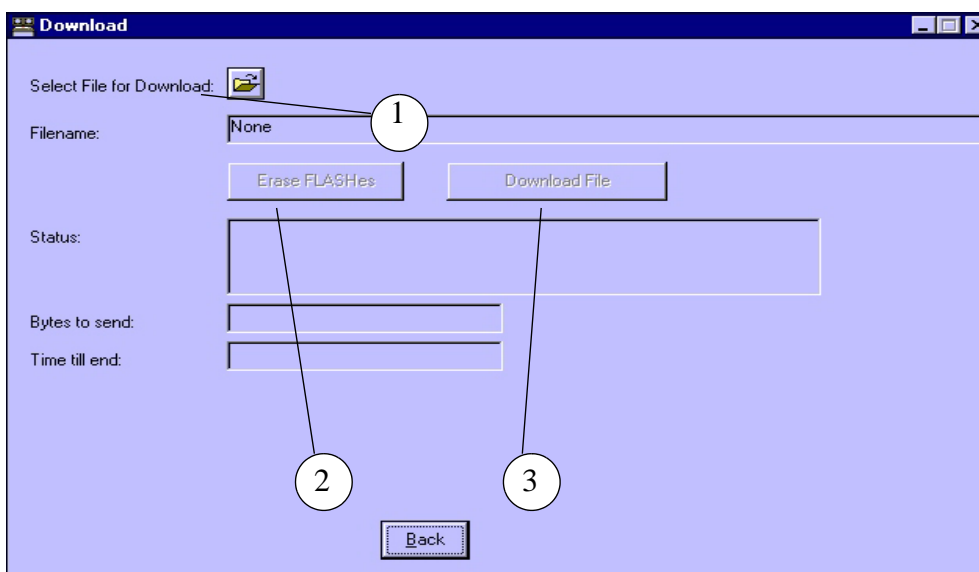

Fig. 4
- Click on the "Select file for Download:" button (1/ Fig. 4).
- Then "Erase FLASHes" (2/ Fig. 4).